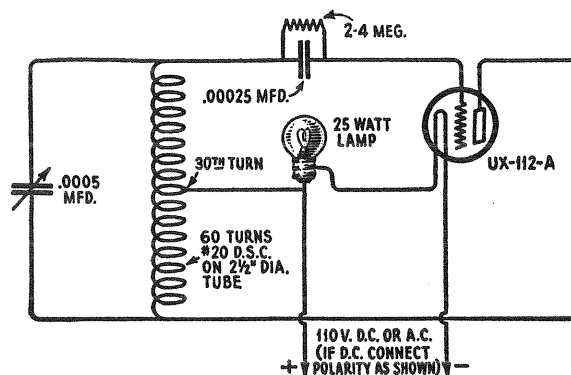

Figure 11—Modulated Oscillator
- (a) Procure an R.F. oscillator giving a modulated signal at exactly 1400 K. C. and 600 K.C. The General Radio Co., type 320 or 360 after calibration by G. R. Co., will be suitable or one may be constructed by assembling and wiring the apparatus indicated in Figure 11. A non-metallic screw driver  $\frac{1}{4}$ " in diameter is also necessary.
- (a) Remove the receiver assembly from the cabinet as described in Part IV, Section 1. Procure a small socket wrench as listed in the Parts Catalog, and also a modulated oscillator (See Figure 11) covering the broadcast range. A 0-2 milliammeter is necessary to place in the first detector plate circuit. This may be done with an adapter that breaks the plate circuit of this tube, or by unsoldering the wire that is connected to the plate socket contact and connecting the meter to this lead and the socket contact. Remove the oscillator tube and connect a 20,000-ohm resistor from the oscillator socket plate connection to the cathode connection. Make a good ground connection to the receiver.